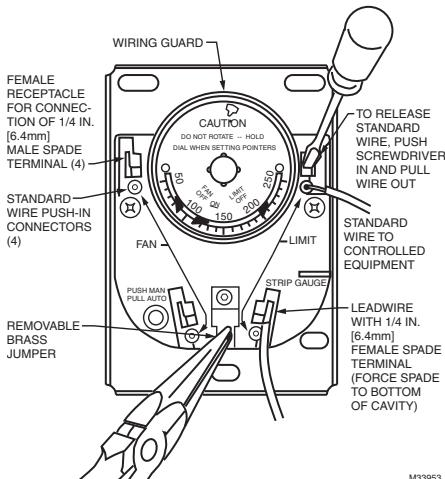

Fig. 5. Location of Wiring Connections.
Disconnect power supply before beginning installation to prevent electrical shock or equipment damage. All wiring must comply with local electrical codes and ordinances or in the absence of local codes with the National Electrical Code ANSI CI-1981-NFPA 70. Follow burner or furnace manufacturer's instructions if available; otherwise, see Fig. 5 and proceed as follows.
The brass jumper is the breakaway type. It must be removed when the limit is used in the low voltage circuit. To remove jumper, break with a needlenose pliers and remove completely. Once removed, it is not replaceable. See Fig. 5 for location.
When connecting cable or conduit to this controller, use care to avoid strain on the control case. Connections can be made to standard wire push-in terminals or female receptacles for 1/4 in. (6.4 mm) male flag connectors on both the fan and limit switches (Fig. 5).
driver in and hold while inserting wire into terminal (Fig. 5). Remove screwdriver. If stranded wire is solder-dipped, it can be pushed directly into terminal holes.
3. Push male flag connector directly into the female receptacle. Make sure that the flag is forced to the bottom of cavity and wire is in the channel (Fig. 5).